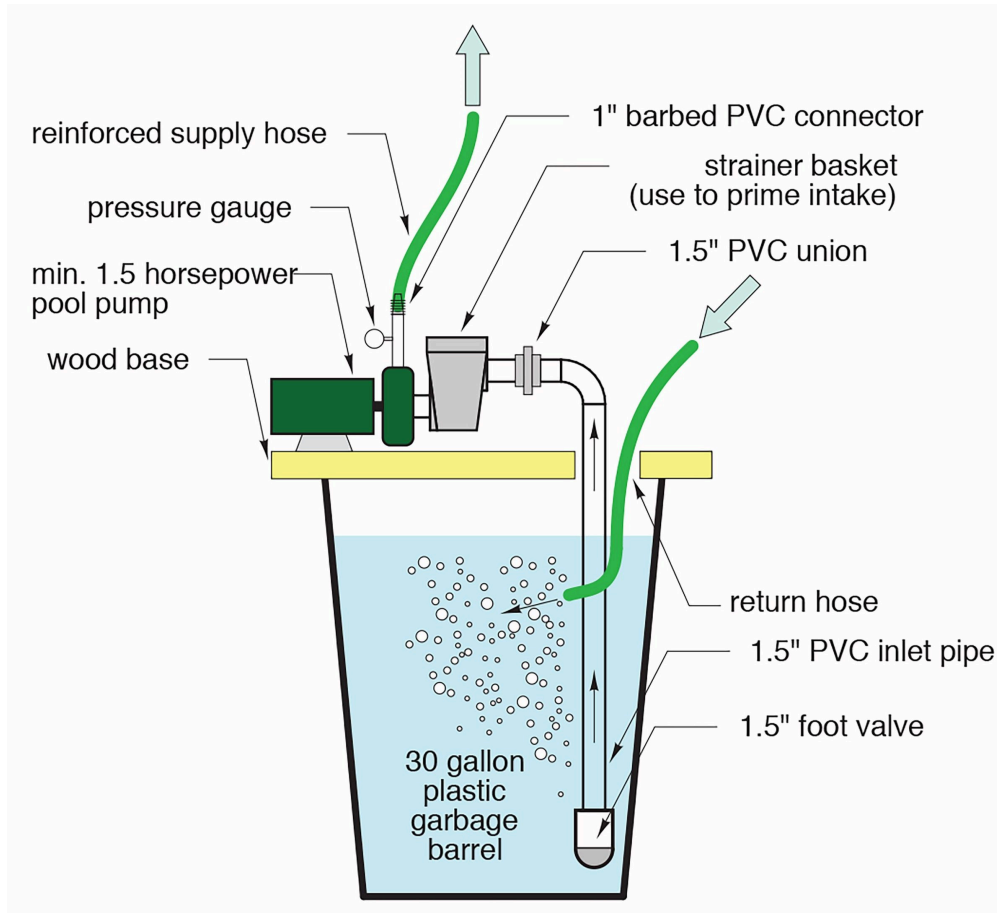

Figure 5 Purge setup for earth loops
- Figure 5 “Slinkies” laid into large-area excavation © Caleffi Hydronic Solutions (<https://www.caleffi.com/usa/en-us>). Used with permission.
valved earth loops. For a valved system, each loop can be individually isolated and purged at a rate of at least 2 feet per second. This rate has been proven to be effective at removing air and debris from the piping, however, the system's installed circulator will usually not be able to move water at a sufficient velocity and quantity to achieve proper purging results. Therefore, a powerful high-capacity purging pump, as shown in Figure 5 below, is temporarily connected to the piping for both valved and non-valved configurations. Sometimes called a "purge cart" or "purge barrel", the setup consists of a pump, which is similar to one used for pools or shallow wells, a barrel that holds at least 30 gallons of liquid, and large-diameter flexible hose connections.